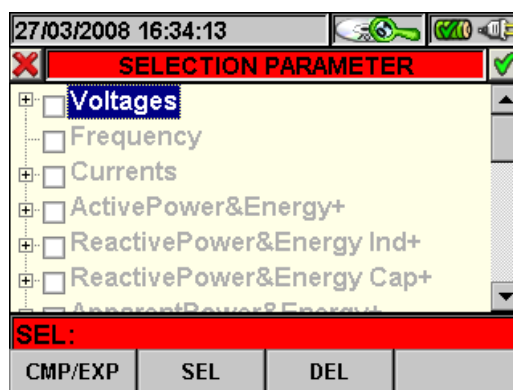

Fig. 91: Parameter selection
1. Press the **F1** key (or the **PARAM** item on the display) to access the page containing the recorded quantities available for the analysis (Fig. 91).
- **F1** key (or **PARAM** item on the display) to access the page of the selectable parameters (Fig. 91)